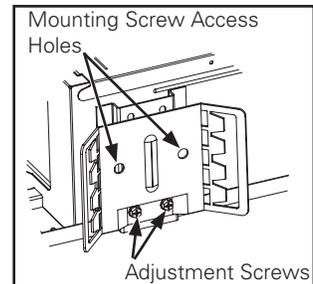

Figure 4. P406TAT only
- The P406TAT Housing is equipped with universal hanger brackets (Figure 4.). When used this fixture should be supported by main runners or other structure that is capable of supporting a fixture weight of 10 pounds. Brackets are adjustable by loosening the two adjustment screws, moving brackets up or down and retightening screws. To facilitate tighter joist spacing remove universal hanger brackets by accessing mounting screws through access holes. Reinstall mounting screws into housing to maintain Airtite™ construction.